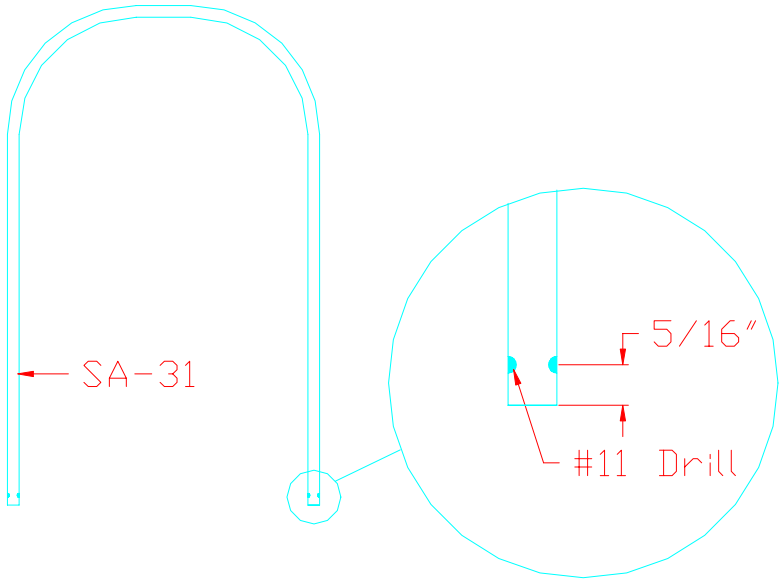

Figure 22.2.3
- 5) Drill two #11 holes in each of the release levers (SA-31). Figure 22.2.3.